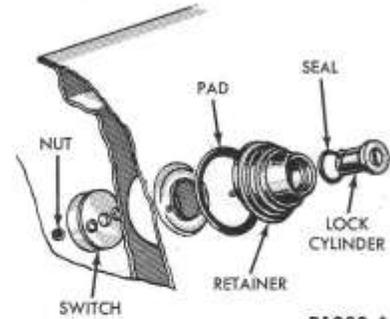

FIG. 20—Tailgate Switch and Lock
3. Remove the nuts retaining the lock and switch, and then remove the lock and lock cylinder from the tailgate (Fig. 20).